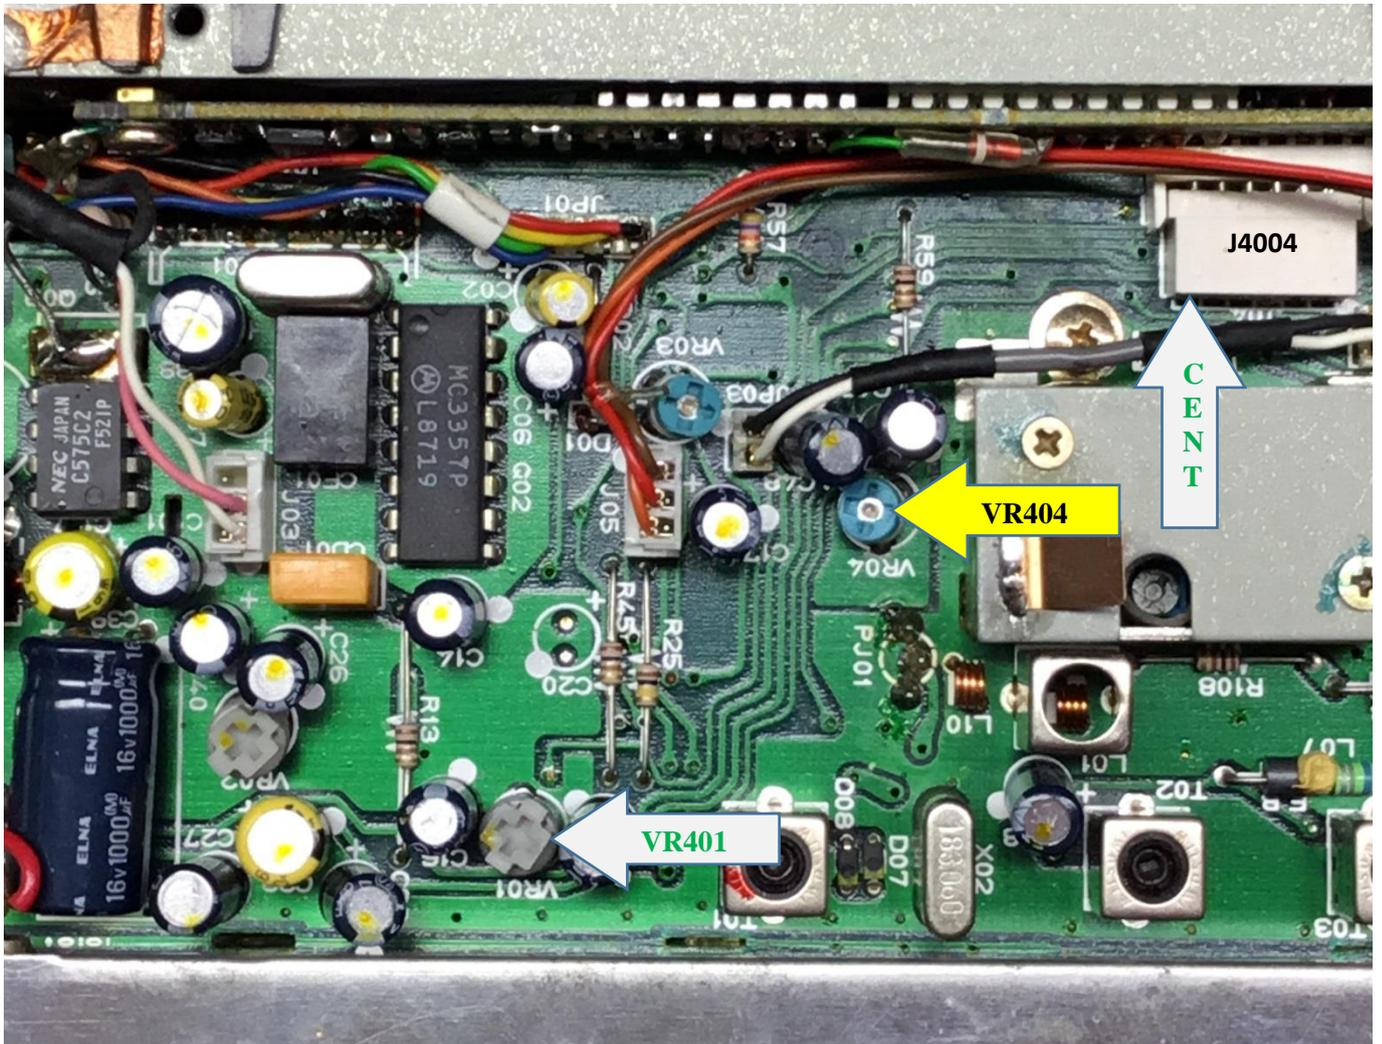

Fig. 9 (PLL/PA Board)
- Referring to Figure 9, raise the signal generator frequency gradually to confirm that the voltage rises to 5V within 1,5 to 4,0 kHz above the display frequency.